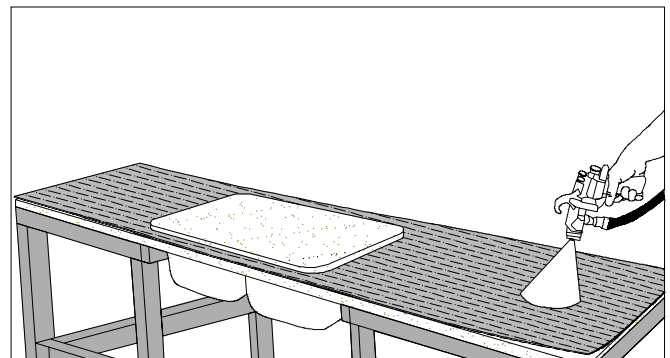

Figure 16B
- Place the substrate cutout of the sink on the backside of the laminate. (FIG. 16B)
- Apply contact adhesive per manufacturer's recommendations to the back side of the laminate. (FIG. 16B)